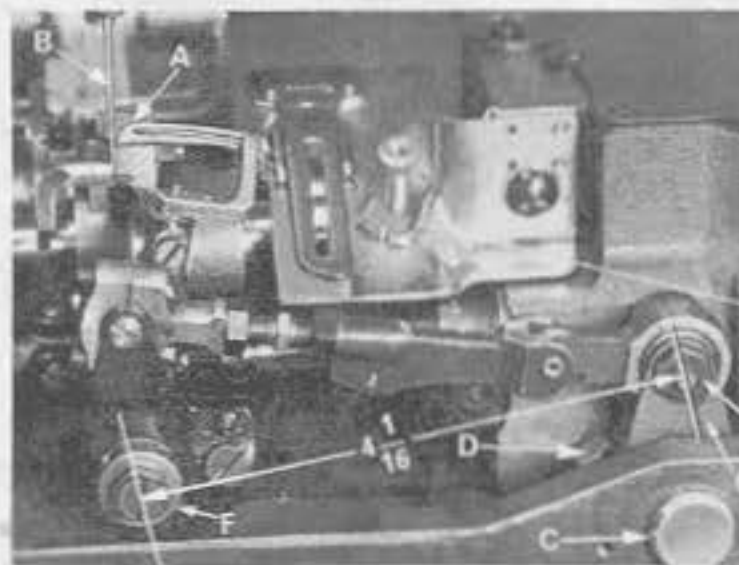

Fig. 5
Insert looper (A, Fig. 5) in the looper rocker and turn handwheel in operating direction until the point of the looper, moving to the left is even with the left side of the needle (B). Note the height of the eye of the needle with respect to the looper point, then turn handwheel in the reverse direction until the looper point again moves to the left, and is even with the left side of the needle. If the motions synchronize, the height of the eye of the needle with respect to the looper point will be the same. A variation of .005 inch (.127mm) is allowable. If the distance from the eye of the needle to the point of the looper is greatest when the pulley is turned in the operating direction, move the looper drive shaft synchronizing stud (C) to the rear. Moving it in the opposite direction acts the reverse.
Moving of the looper drive lever shaft synchronizing stud is accomplished as follows: Loosen the clamp screw (D, Fig. 5) in the looper drive lever (G). To move stud to rear (away from operator), a light tap with a small hammer, directly on the stud, is all that is required. To move stud forward (toward operator), remove the cloth plate, throat plate support, oil reservoir top cover and oil reservoir back cover, then, a light tap on the looper drive lever rocker shaft, toward the operator, is all that is required.
NOTE: Looper drive lever (G, Fig. 5) has an oil seal collar and an "O" ring between it and the bed casting. All end play must be removed from the looper drive lever
With the looper at the extreme right end of its travel, check the location of the center line of the right looper connecting rod bearing, using gauge No. 21227 CX. Remove nut (E, Fig. 5) and place hole in gauge over thread stud. The left end of the gauge should locate against the right side of the looper rocker cone (F). If adjustment is necessary, loosen the clamp screw (D) and reposition the looper drive lever (G) as required. If gauge is not available setting can be checked with a scale. The distance between the center line of the looper rocker cone and the center line of the looper lever stud should be 4 1/16 inch (103.19 mm) (Fig. 5). For Class 56700 machines used gauge No. 21227 CX-56, etc. Retighten clamp screw (D) referring to "NOTE" in preceding paragraph.